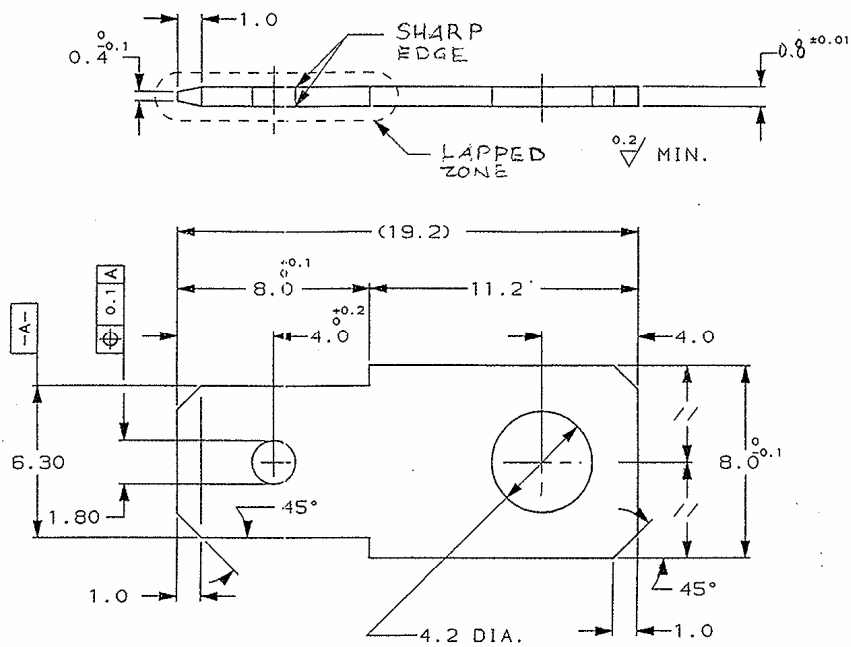

Fig. 2
- Gage 92-331630-1 drawing for Steel Gage Tab (see Fig. 2).